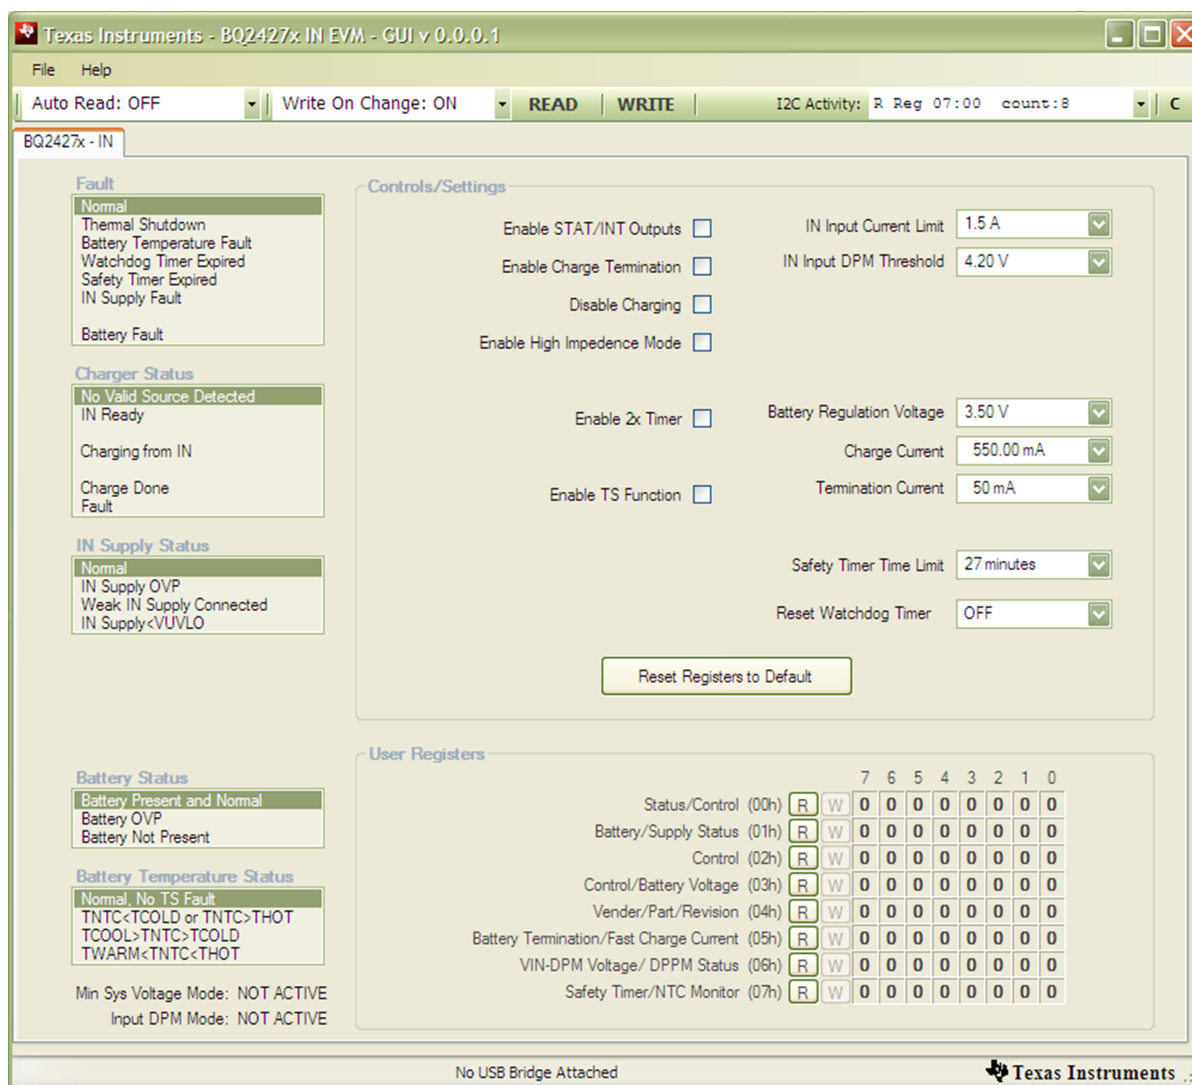

Figure 6. Main Window of bq2427xSW Evaluation Software
- Turn on the computer. Open the bq2427x evaluation software and click "IN DEVICE" when prompted at start-up. The main window of the software is shown in Figure 6.